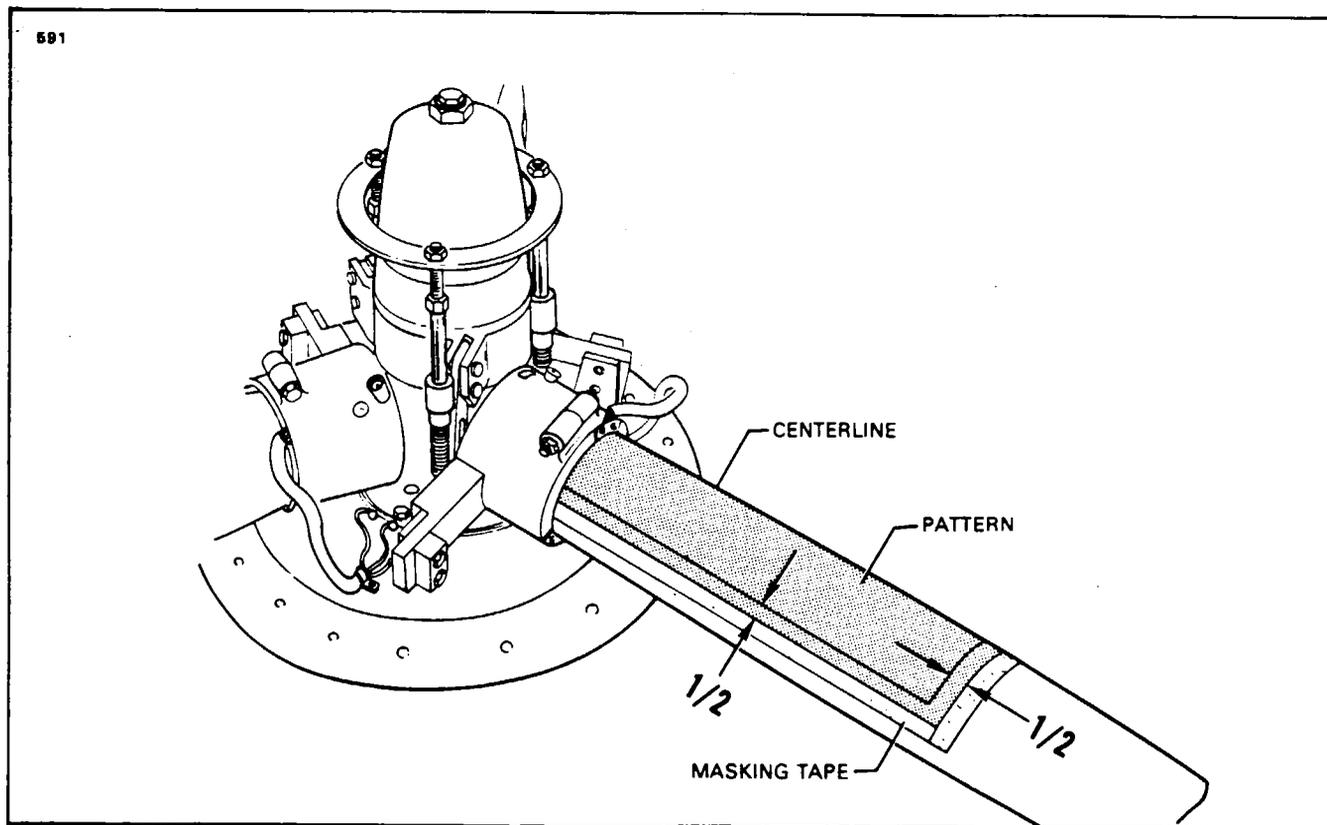
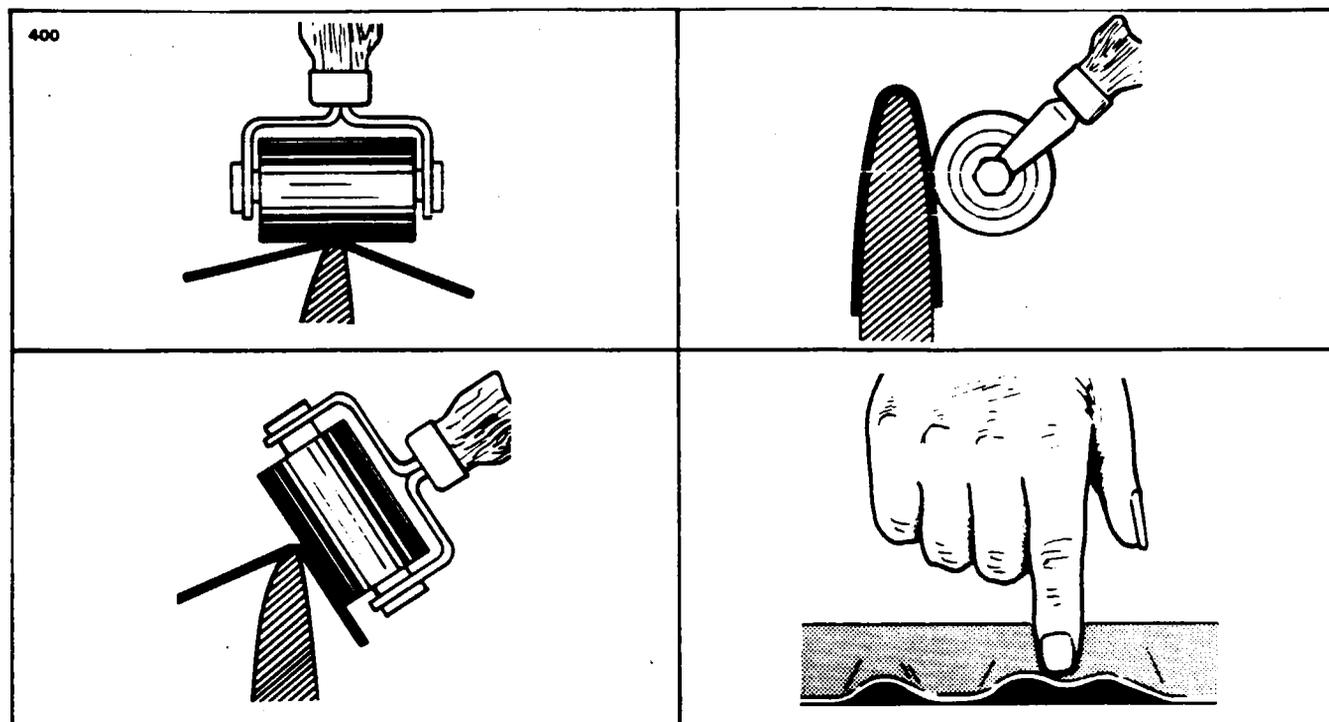

Figure 30-24. Installation of Deicer Boots (Typical)
Figure 30-25. Wrinkled Deicers
1. Mark and cut from masking tape a pattern the size of propeller deicer. (Refer to Figure 30-24.)
- A. Position in the deicer on the propeller leading edge, using centerlines starting from the hub. (Refer to Figure 30-24.) Make sure that the strap will fall in the position previously marked. Working towards the tip, tack the deicer centerline to the leading edge of the propeller blade. Use tackifying solvent as necessary. If the deicer is allowed to get off course, pull up with a quick motion and remove deicer. Recement if necessary before proceeding. Roll firmly along the centerline with a rubber roller, as shown in Figure 30-25.
**WRINKLED DEICERS.** (Refer to Figure 30-25.)